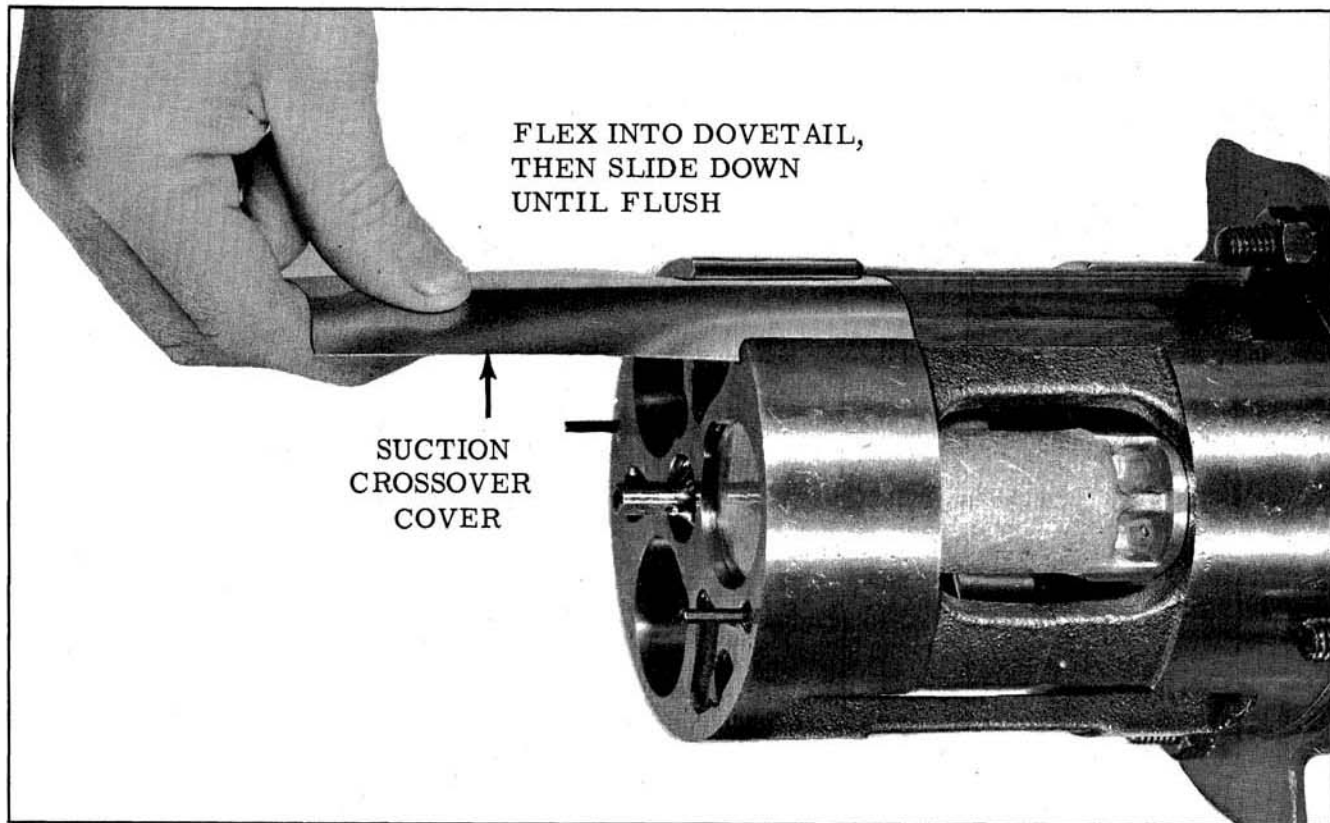

Fig. 14-134 Installing Suction Crossover Cover and Seal
24. Install the suction crossover cover by flexing the cover sufficiently to engage the groove in the end of the "dove tail" slot of the rear cylinder head; then slide the cover down until it is flush with the cylinder head. (Fig. 14-134)